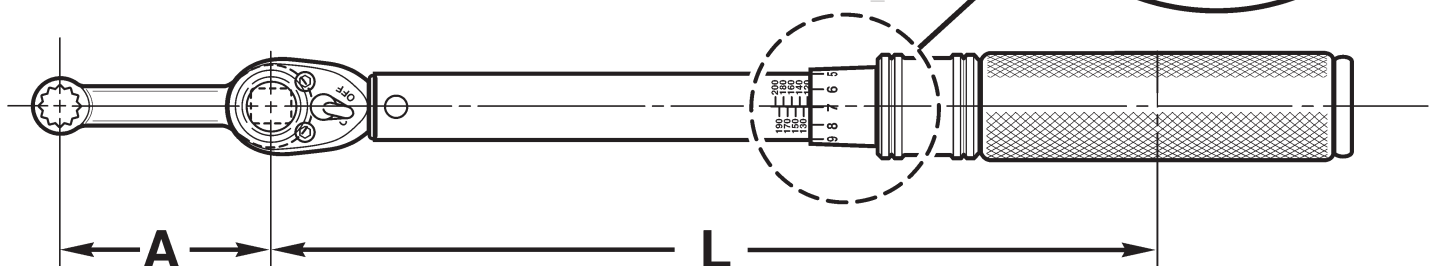

FIGURE 23-1 LENGTHENING TORQUE WRENCH EFFECTIVE LENGTH
4. If special adapters which change effective length of torque wrench are used, final torque value must be calculated using formulas in Figures 23-1 and 23-2.